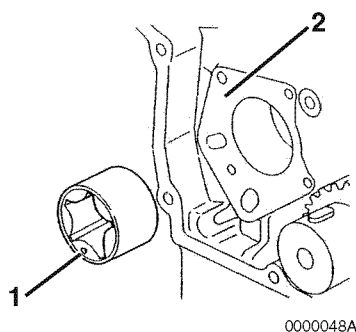

Figure 9-29
2. Reinstall the outer rotor in the gear case housing. The punch mark **(Figure 9-29, (1))** on the end of the outer rotor must face away from the gear case housing **(Figure 9-29, (2))**.